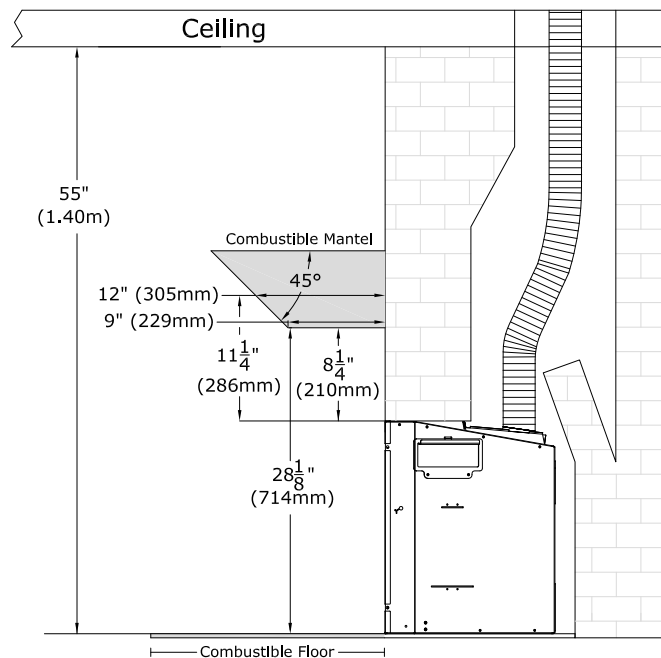

Figure 8.4 - Mantel Requirements
- Combustible Mantel Projections: As referenced in Figure 8.4 a 9" (229mm) mantel may start at 8-1/4" (210mm) above the top of the appliance. Mantel projections can increase 1" (25mm) of depth for every 1" (25mm) of height starting at the 9" (229mm) mantel.
- Non-combustible Mantel Projections: As referenced in Figure 8.4 a minimum vertical clearance of 1" (25mm) is required above the top of the appliance for a non-combustible mantel having a maximum depth of 8" (203mm). Mantel projections can increase 1" (25mm) of depth for every 1" (25mm) of height.